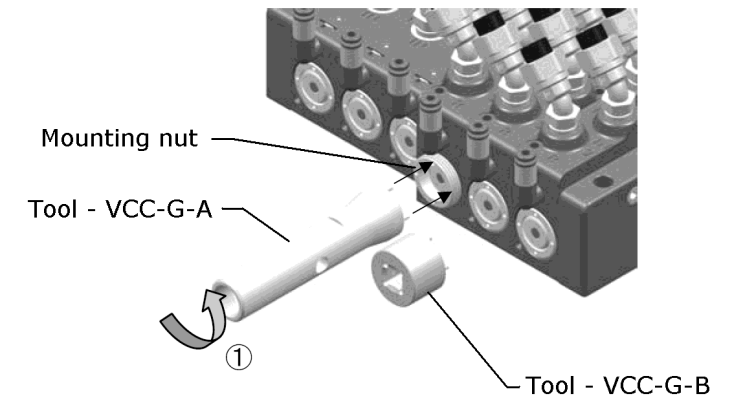

Figure 4
- Unscrew ① and detach the mounting nut using tool VCC-G-A (or socket tool VCC-G-B). See Figure 4.